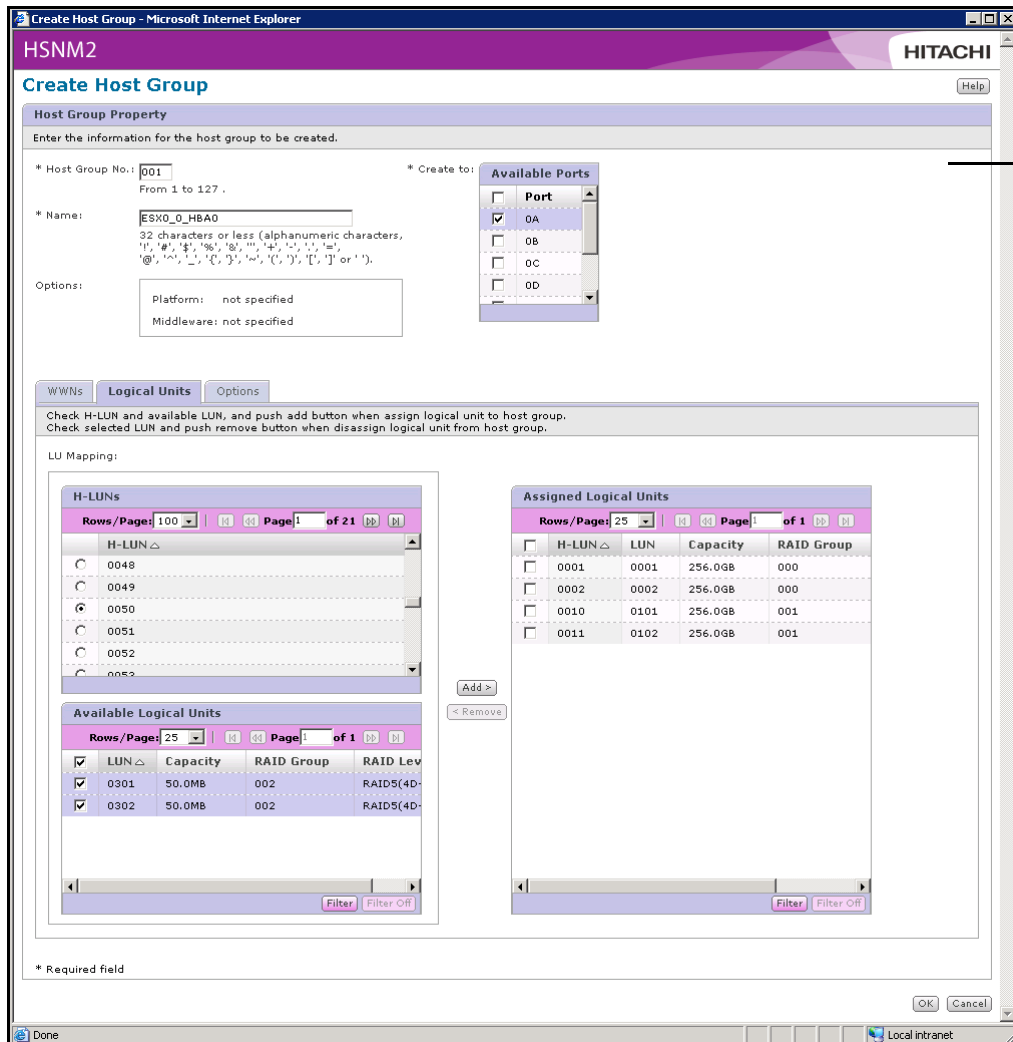

Figure 4-8: Example of the Logical Units Tab
- After selecting the WWNs, click the **Logical Units** tab. A tab similar to the one in Figure 4-8 appears. The list on the left shows the available (selectable) LUNs that have been created.